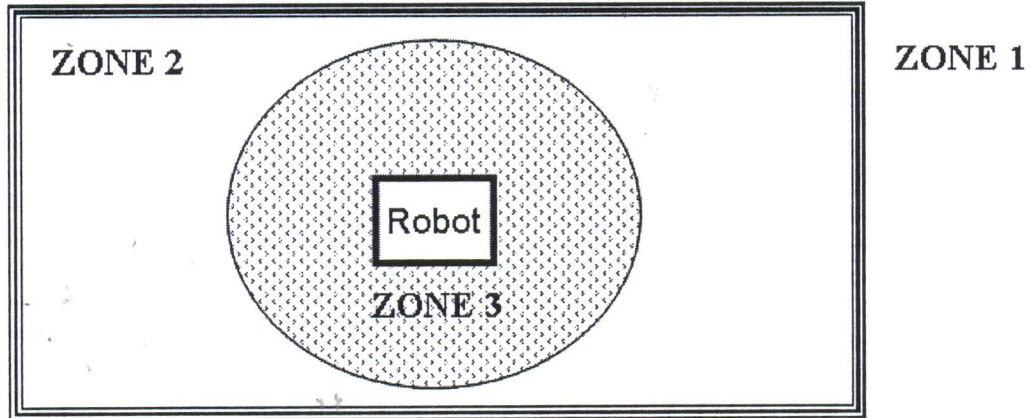

Figure 7: Work Cell Zone
- (g) During production hours, state the authorization to enter each of the zones (zone 1, 2, and 3) indicated in the **Figure 7** below. (3 marks)